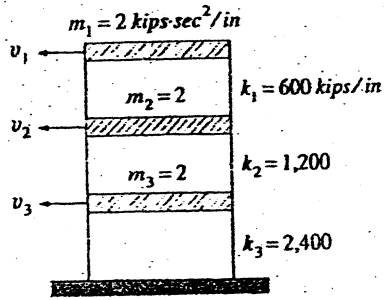

Figure 2
4. Find the fundamental vibration mode shape and frequency for the structure as shown in figure 2 using Stodola or Holzer method. [12]